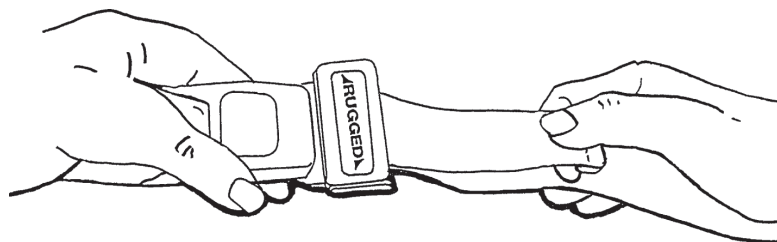

Figure 21.3: Shortening the Safety Restraint
- **To shorten the restraint**, grasp the hemmed tab and pull the webbing back through the latch plate until the required tightness is achieved as shown in Figure 21.3.